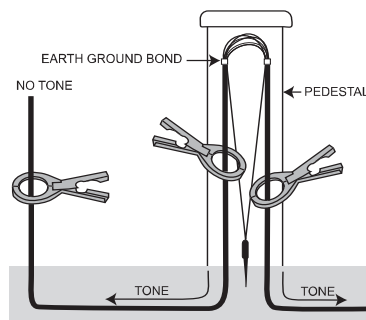

Fig. 10 - Coupling Points
- Near End Coupling:** To supply tone from the end of a cable, the end of the cable must be bonded or grounded. (See Fig. 10)